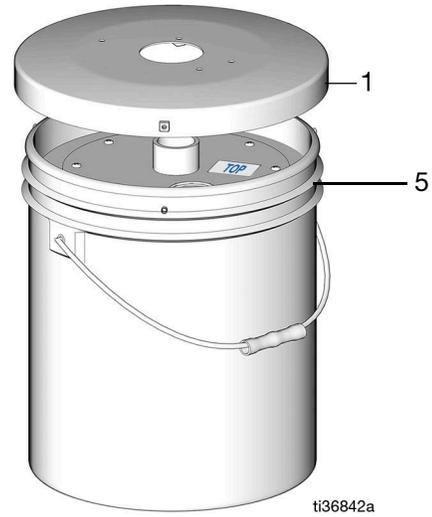

FIG. 6
6. Place the drum cover (1) on top of the follower plate (5) (FIG. 6).